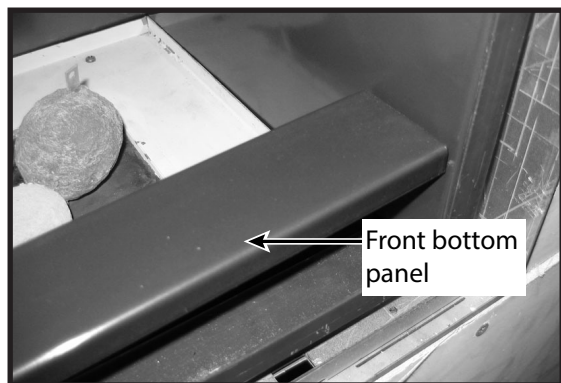
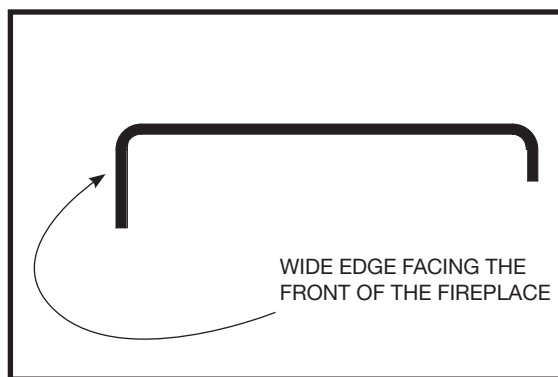

Figure 46: Front panel.
Figure 47: Front panel - side view
4. Place the front bottom panel (Figure 46) on the front lip of the firebox, wide flange facing the front (Figure 47). (Proceed to step #5 if you are installing a TCWS.54NG03.C2 Black Diamond burner with this unit.)